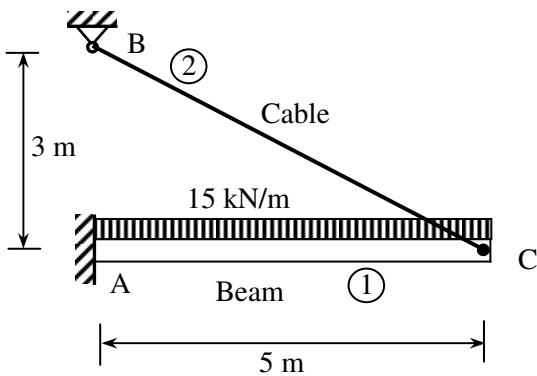

Figure 3
- Q.3** (a) Obtain the rearranged joint stiffness matrix of a composite structure shown in Figure 3. Beam AC is made of concrete ($E = 20 \text{ GPa}$) with rectangular cross-section of 150 mm x 230 mm, while cable BC is made of steel ($E = 200 \text{ GPa}$) with 12 mm diameter. **06**